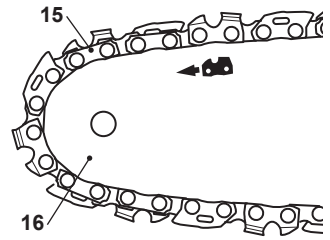

Fig. 4
5. The saw chain movement is as indicated by the arrow (Fig. 4).